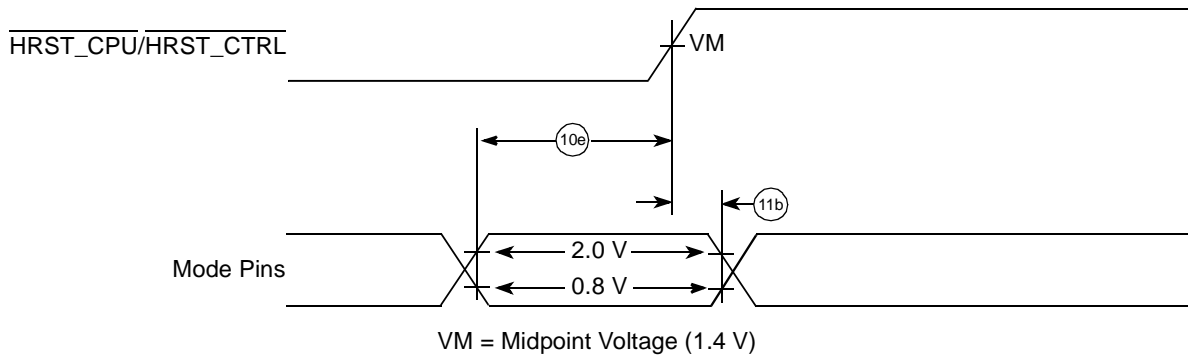

Figure 13. Input Timing Diagram for Mode Select Signals
- All mode select input signals specifications are measured from the TTL level (0.8 or 2.0 V) of the signal in question to the $VM = 1.4$ V of the rising edge of the $\overline{\text{HRST_CPU/HRST_CTRL}}$ signal. See Figure 13.
Figure 13 shows the input timing diagram for mode select signals.